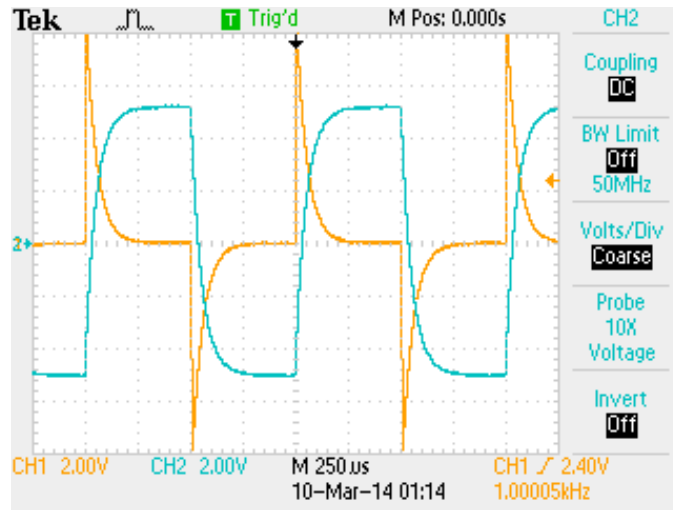

Figure 8: Differential Amplifier Outputs
2. Connect the outputs of the differential amplifiers to the scope inputs, and set both gains to 1. You should see something similar to Fig. 8.